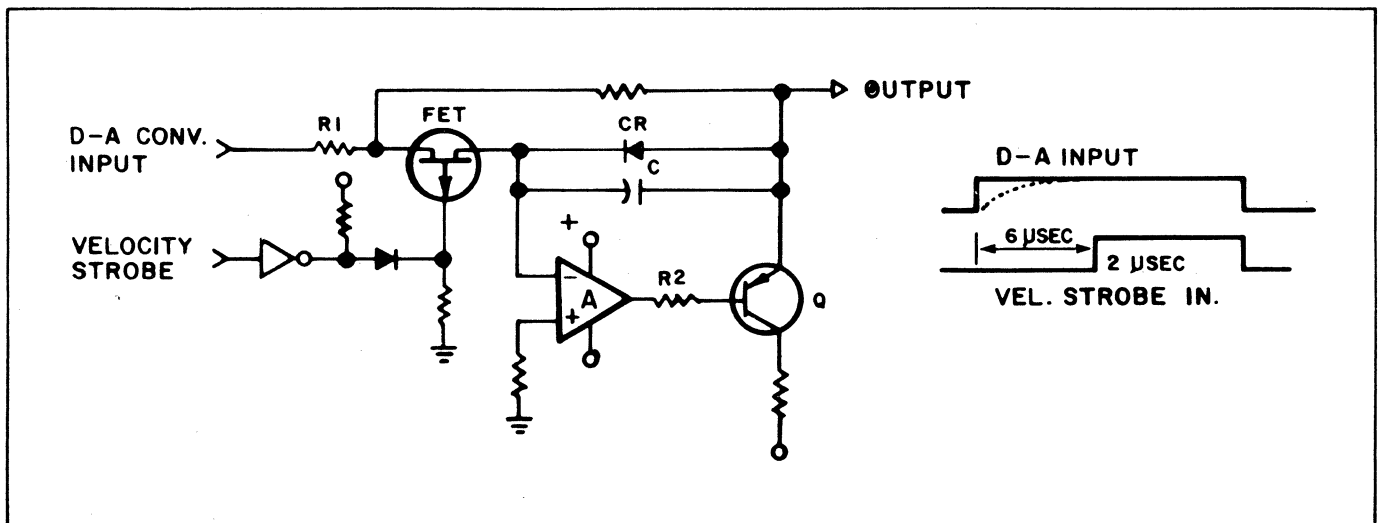

Figure 2-15. Typical Sample and Hold Circuit
Figure 2-15 illustrates a typical Sample and Hold circuit with the basic timing involved. As shown, the circuit consists of an input switching FET, an operational amplifier (A) coupled to a buffer/driver transistor (Q), and associated components.